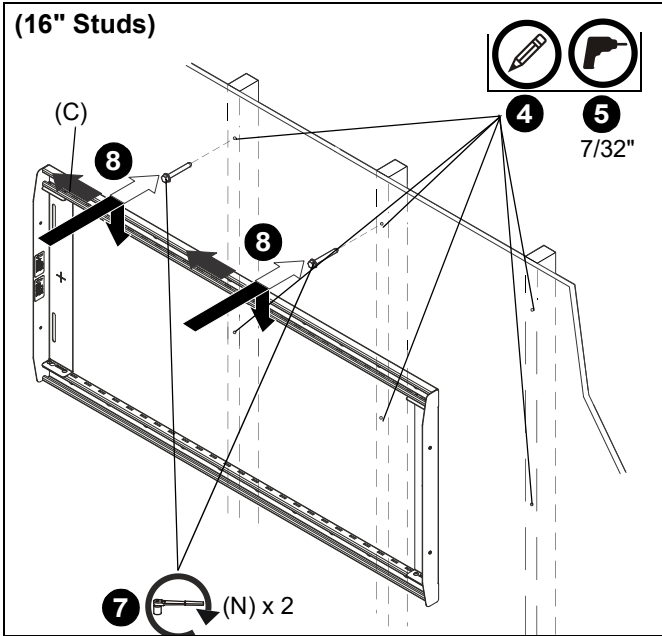
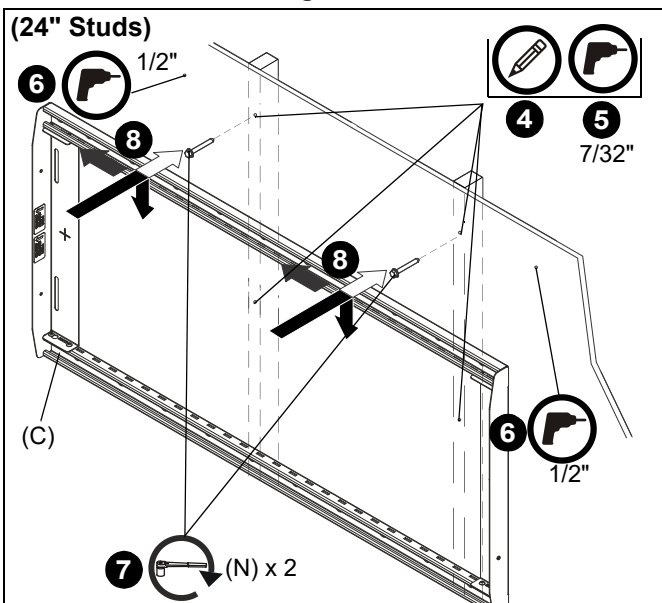
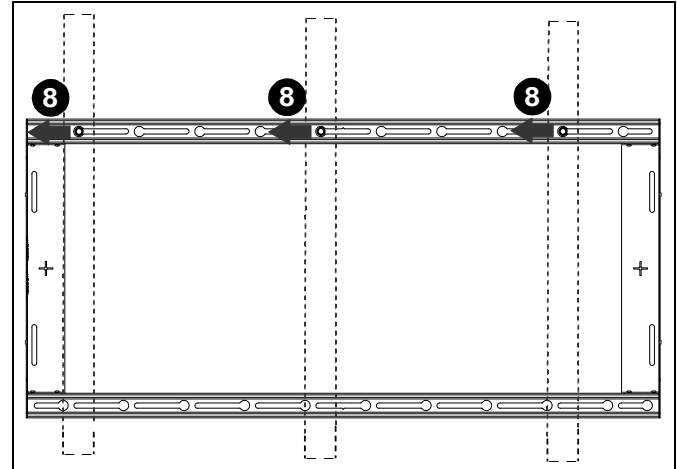

Figure 10
Figure 11
Figure 12
4. Using a level, mark the wall on each stud to attach the mount through the mounting slots. (See Figure 10) or (See Figure 11)
5. Drill four or six 7/32" (5.5mm) pilot holes (one in each stud) at the site of the upper and lower mounting holes. (See Figure 10) or (See Figure 11)
6. **(24" studs only)** Drill two 1/2" (12.7mm) pilot holes at outside locations marked for additional two holes. Install toggle anchors (L) into these holes following Steps 6-9 in **Installing to Steel Stud Section**. (See Figure 11)
7. Partially install two 5/16 x 2-1/2" flanged lag bolts (N) into upper pilot holes but do not tighten to wall. (See Figure 10) or (See Figure 11)
8. Hang rail assembly (C) and slide slightly to the left until bolts (N) are clear of keyhole slots and able to hold mount to wall. (See Figure 10) or (See Figure 11) and (See Figure 12)